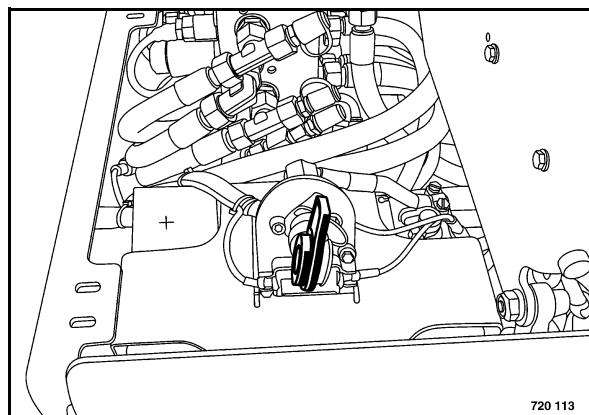

Fig. 117
- Clean the outside of the battery (Fig. 117).